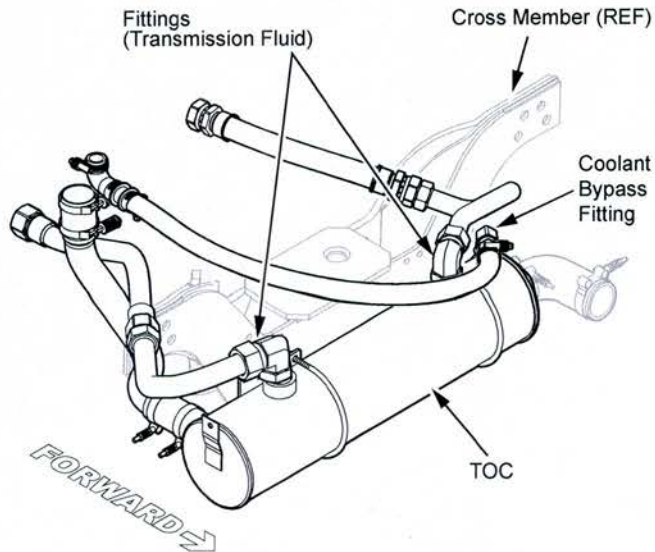

Figure 2
- Remove the coolant bypass fitting from the TOC. Remove and discard the O-rings from the fitting and set the fitting aside for reinstallation (see Figure 2).
Note: Pay particular attention to the orientation of fittings, for reinstallation. Remove the O-rings from the fittings and discard (see Figure 2).